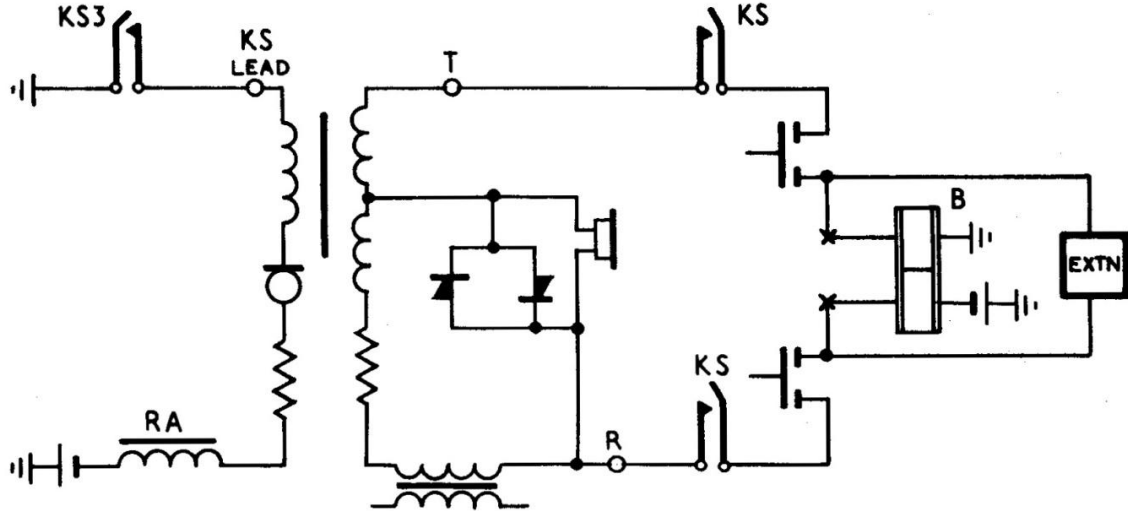

FIG. 3. EXTENSION CONNECTED TO OPERATOR.
Operation of the Speak key (KS) associated with the selected cord circuit connects the tip and ring of the cord circuit to T and R of the telephonist circuit via two coupling capacitors (Fig. 3).